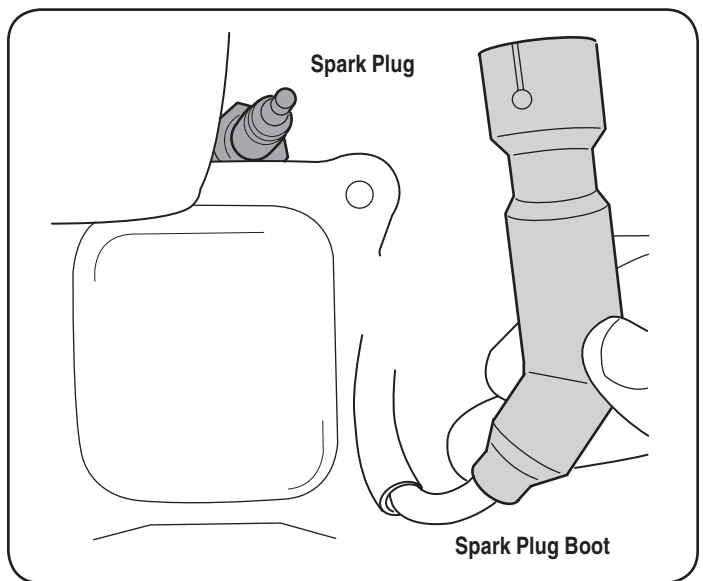

Figure 13
1. Remove the spark plug boot and use a spark plug wrench to remove the plug. See Figure 13.